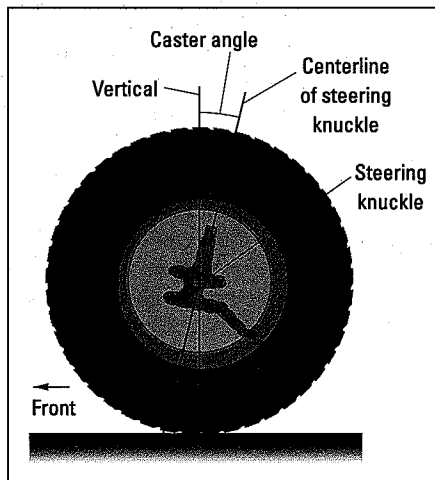

Figure 19-4:
- ✓ **Caster** has to do with the position of your steering knuckle as compared to a vertical line when viewed from the side (see Figure 19-4). If properly adjusted, it makes your wheels track in a straight line instead of weaving or shimmying at high speeds. Caster also helps return the steering wheel to a straight-ahead position after completing a turn.